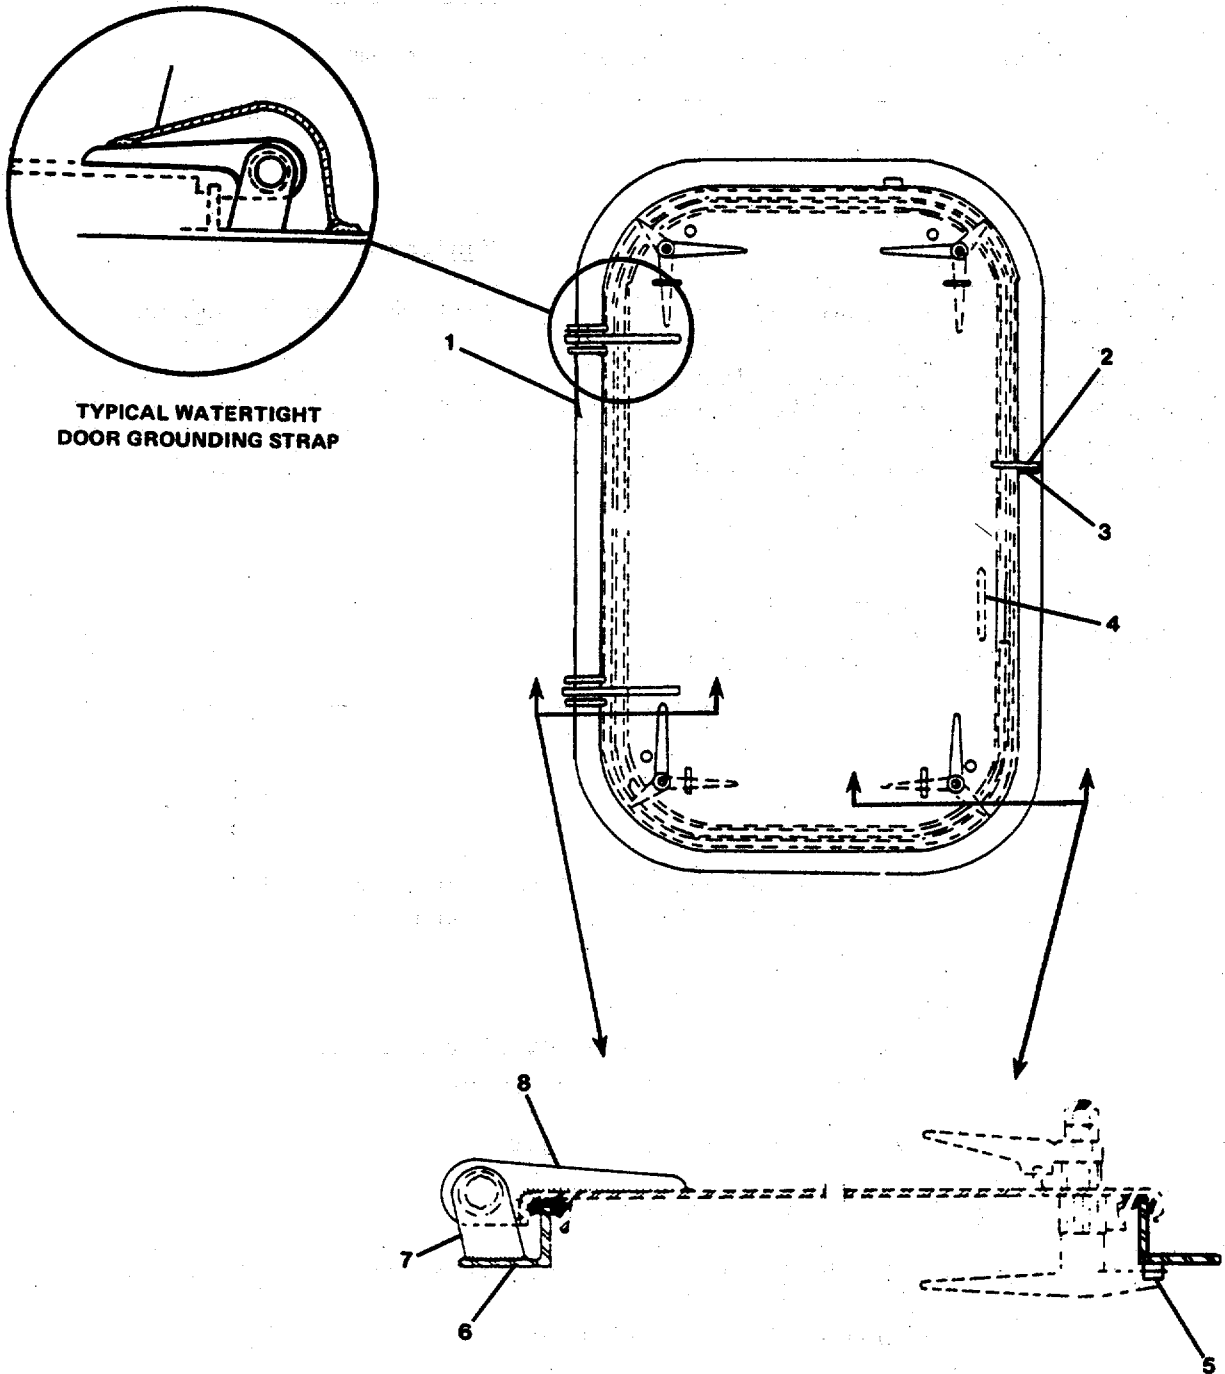

FIGURE 3-173. Repair Watertight Door. Four Dogs (30 x 60).
- a. Install grab handle (6) on door (1).
- b. Install frame angle (5) and frame wedge (4) on bulkhead.
- c. Install hinge pad (3) on frame angle (5) and hinge blade (2) on door.
- d. Install hasp (8) and eye (7) on door.
**3-189. Repair Watertight Door, Four Dogs (30 x 60). (Figure 3-173)**